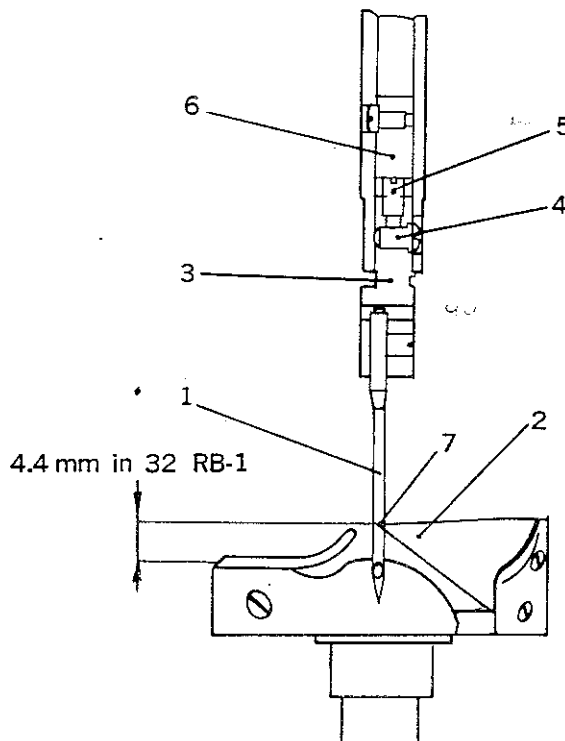

FIG. 44
ADJUSTING THE HEIGHT OF THE NEEDLE CLAMPS (Fig. 44, 45)
- 3) Turn hook only so that hook point comes to the needle as (7) Fig. 44.
- 4) To correctly adjust the position of the needles (1) relative to hook points (2), remove the needle clamps (3) from their respective needle bars by removing needle clamp set screw (4)...Upon removing the needle clamps, needle clamp adjusting screw (5) become accessible. Turn adjusting screw (5) either in or out to obtain the 4.4mm (11/64") distance between the eye of the needle when at its lowest position and the hook point Fig. 44 after the needle clamps with needles have been replaced on the needle bars.